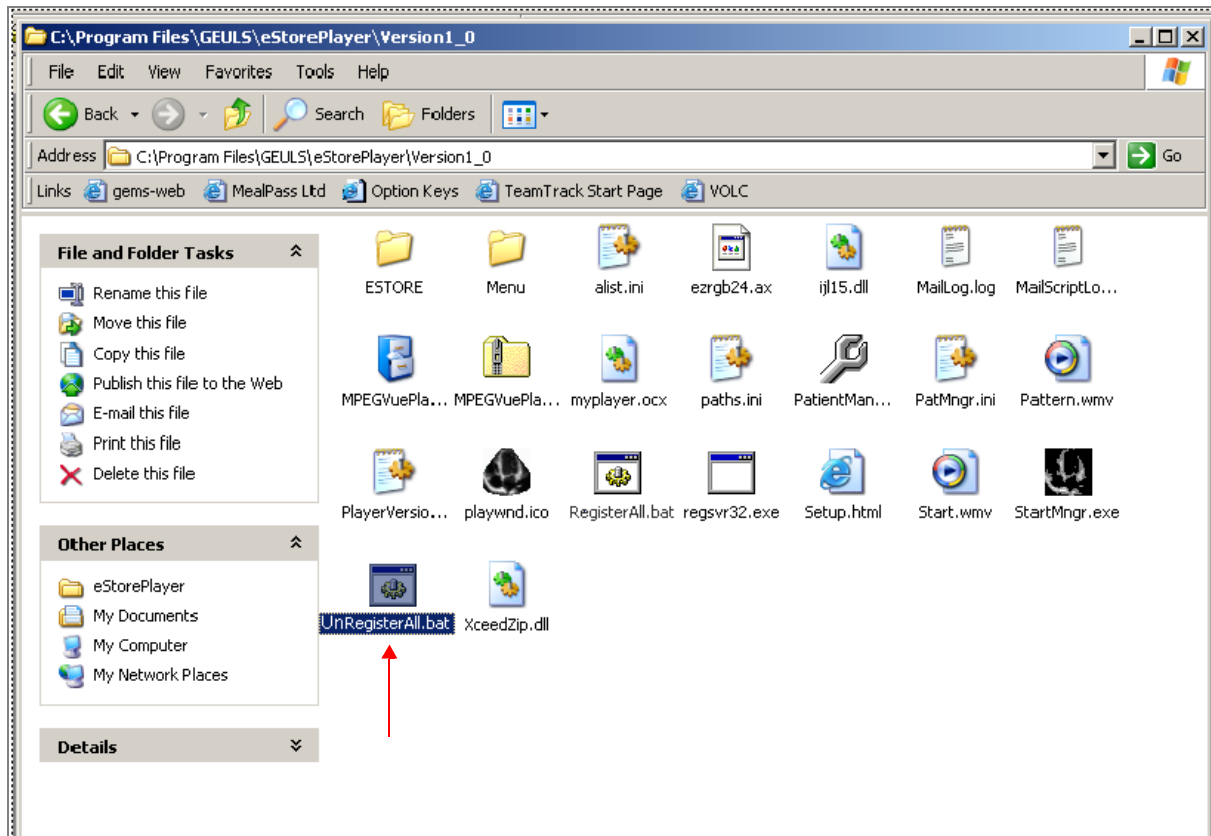

Figure 3-157 Uninstall MPEGVue - Stage 1
- 3.) From the **C:\Program Files\GEULS\eStorePlayer\Version1_0** folder, double-click on the **UnRegisterAll.bat** icon, as shown in Figure 3-157 below.